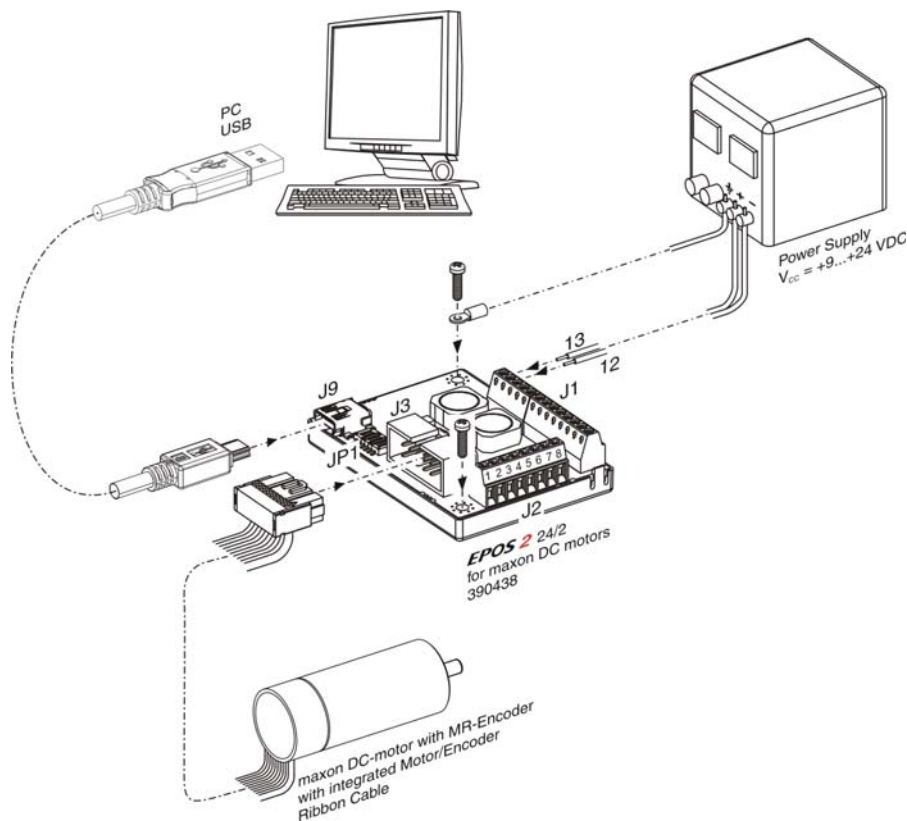

Figure 3-2 Minimum Wiring: maxon DC motor (integrated Motor/Encoder Ribbon Cable)
- 2) Connect maxon cable assemblies (→ Table 3-4 and Figure 3-2).